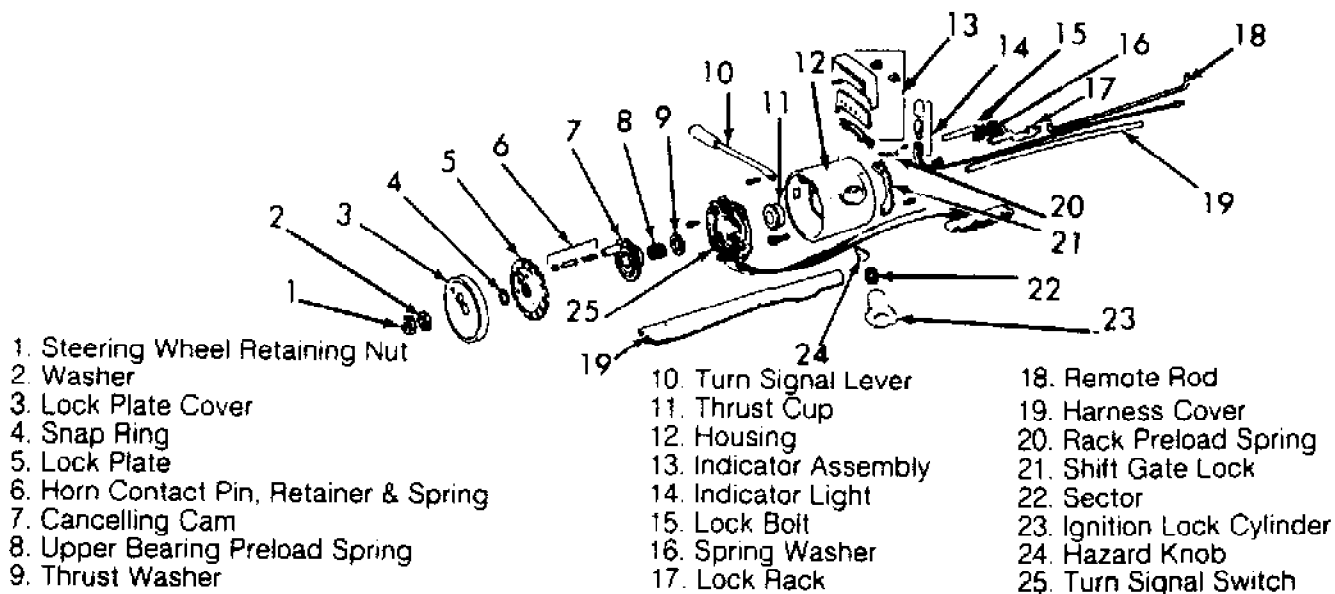

Fig. 5: Exploded View Of Typical Steering Column Switch Assembly
2) On column shift models, remove selector lever retaining pin and lever. On all models, use 2 screwdrivers to remove lock plate cover (if equipped). See Fig. 5.
4) Remove lock plate, canceling cam, upper bearing preload spring and thrust washer. See Fig. 5. Depress hazard warning switch knob and rotate counterclockwise to remove.